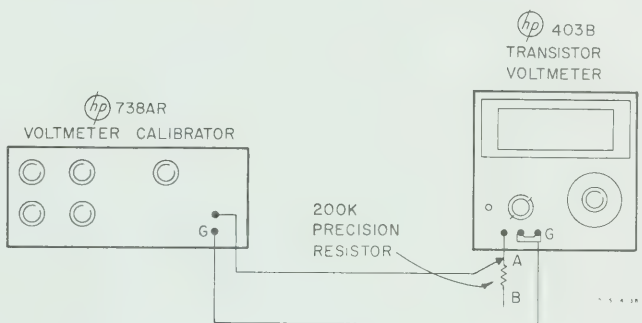

Figure 5-10. Performance Check Setup
d. Connect the 738AR and 403B as shown in figure 5-10.
c. Move the input from the Model 738AR to point B (figure 5-10). Note the Model 403B reading (E_o).